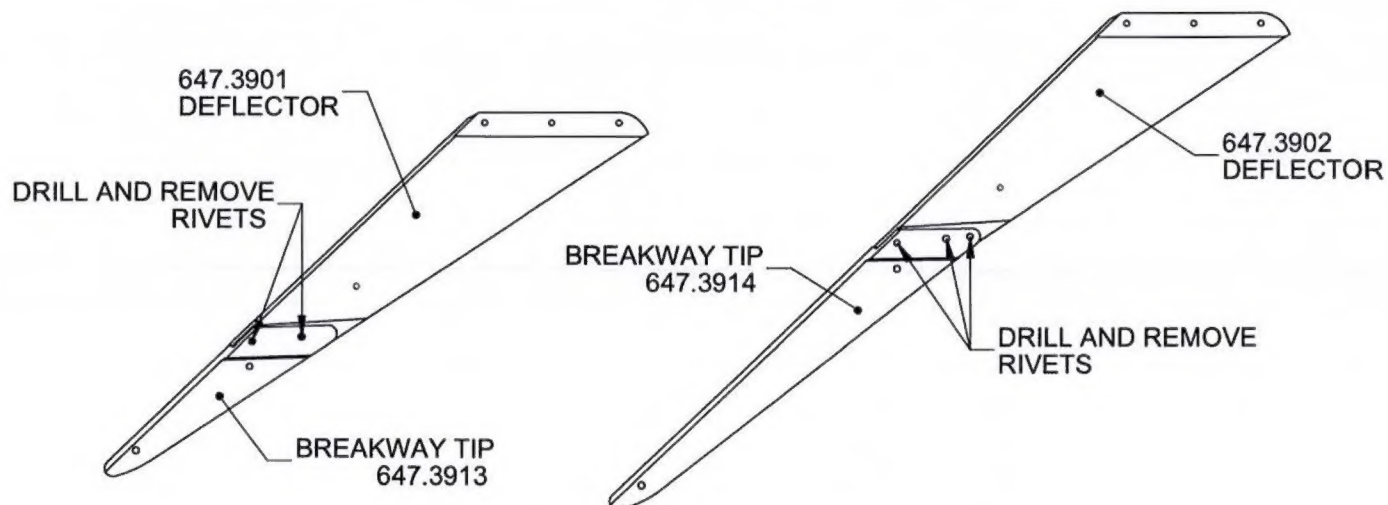

FIGURE 1: REMOVAL OF BREAKAWAY TIP
2.1 With reference to Figure 1, It is acceptable to remove the P/N 647.3913 or 647.3914 Breakaway Tip by drilling out and removing the P/N 601.3074 rivets that secure the Breakaway Tip to the 647.3901 or 647.3902 Deflector of the Lower Cable Cutter Assembly. Remove qty(2) Rivet P/N 601.3074 on Deflector P/N 647.3901 or qty(3) Rivet P/N 601.3074 on Deflector P/N 601.3092.